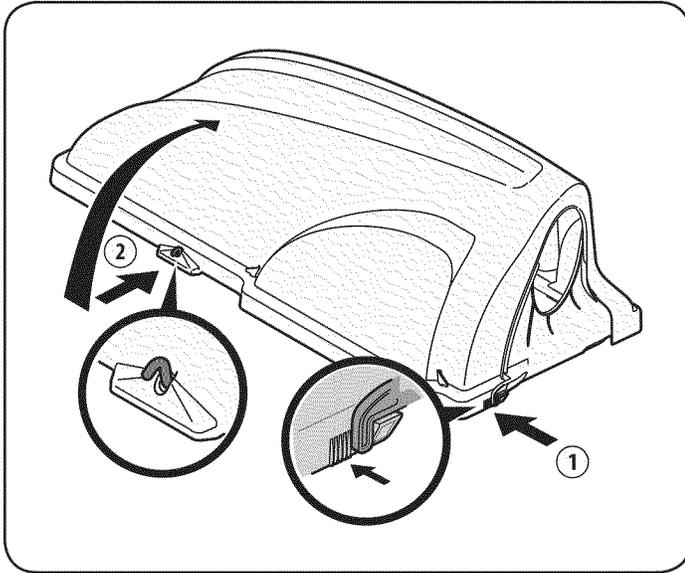

Figure 23
2. Lift up grass bag cover by pushing in on the rear, right-side tab with your right hand, as seen in 1 of Figure 23, and lifting the cover with your left hand in the center rear of the bagger cover, 2. Do not remove the chute tube assembly from the tractor.